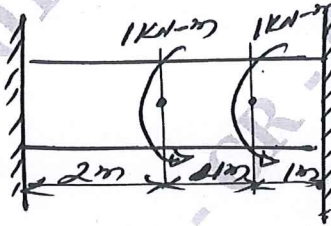

Fig.Q6(b)
b. A bar of circular cross section having a diameter of 50 mm is firmly fixed at its ends and subjected to a torque as shown in Fig.Q6(b). Determine maximum angle of twist and shear stress. Take  $G = 7 \times 10^4 \text{ N/mm}^2$  and  $E = 2 \times 10^5 \text{ N/mm}^2$ . (10 Marks)